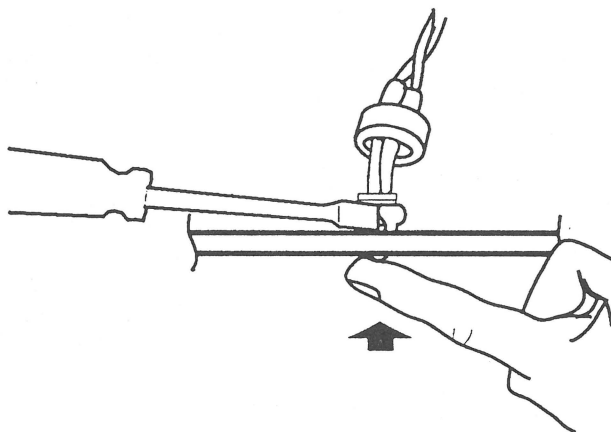

FIGURE 14
5. Press the face of the LED toward the inside of the metal frame while gently prying apart the LED holder with the screwdriver until the LED snaps free of the metal frame (Figure 14).